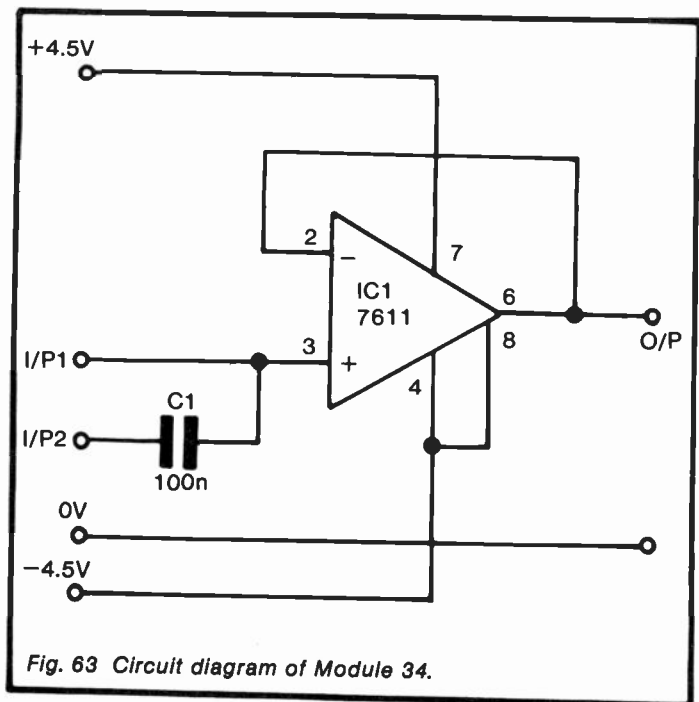

Fig. 63 Circuit diagram of Module 34.
*Circuit diagram:* see Figure 63.